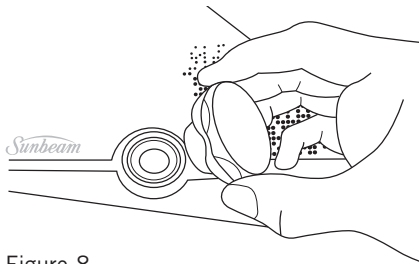

Figure 8
4. Remove the calc clean valve completely. See fig 8.